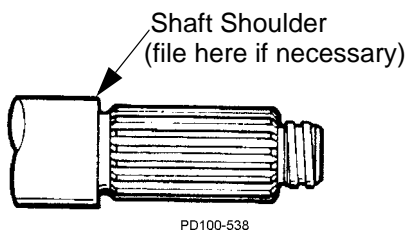

Figure 47 - Shaft Shoulder
3. If the shaft shoulder has a sharp edge, remove the edge with a file to prevent cutting the shaft o-ring when disassembling the seal seat. See Figure 47.